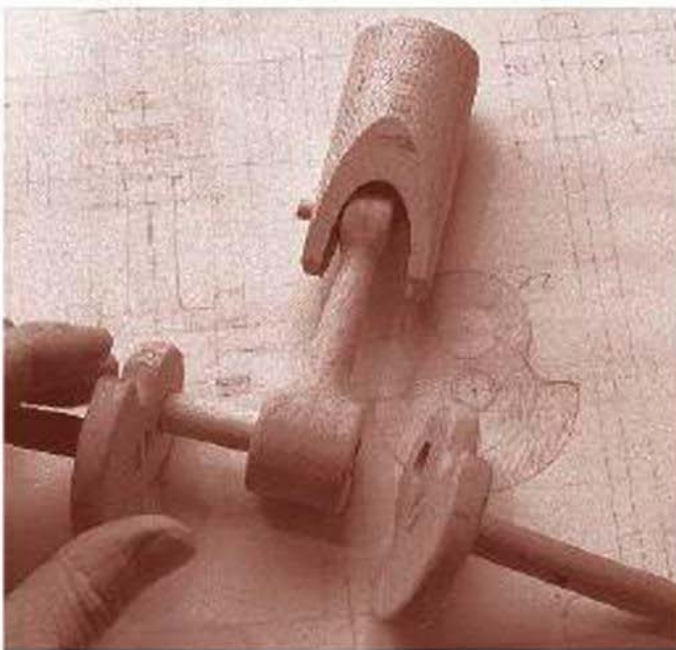

FIGURE 4-23
- 3** When you are happy with the fit of the small end in the piston, take the two crank plates—complete with their lengths of drive shaft dowel—and link them with a short length of dowel that runs through the big end bearing at the end of the connecting rod. Make the rod about 2" long (Fig 4-23). Don't glue at this stage.